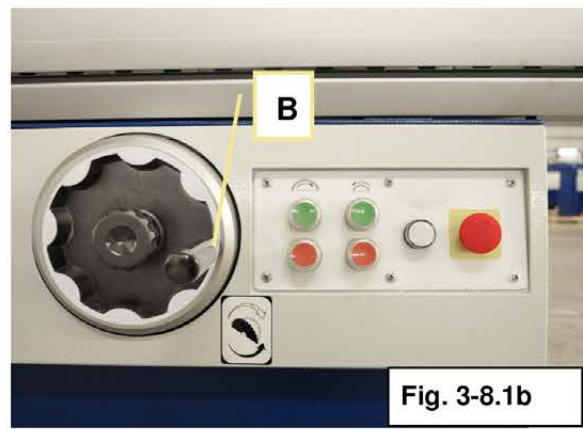

Fig. 3-8.1b
2. Set the saw unit in 0 degree by turning hand wheel **B** (Fig.3-8.1b)